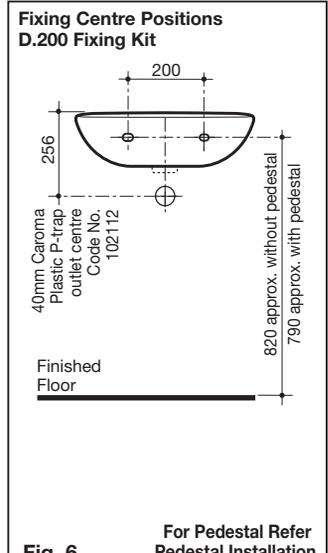

Fig. 6
For timber stud walls, noggings and studs must be positioned at a height to allow for the location of fasteners in the detailed centre fixing position for the bracket option available for the Concorde 500 Wall/ Pedestal basin. The centre position is detailed in **Figure 6**.
- 1- Mark fixing hole centres on finished wall at the recommended height as detailed in **Figure 6**.